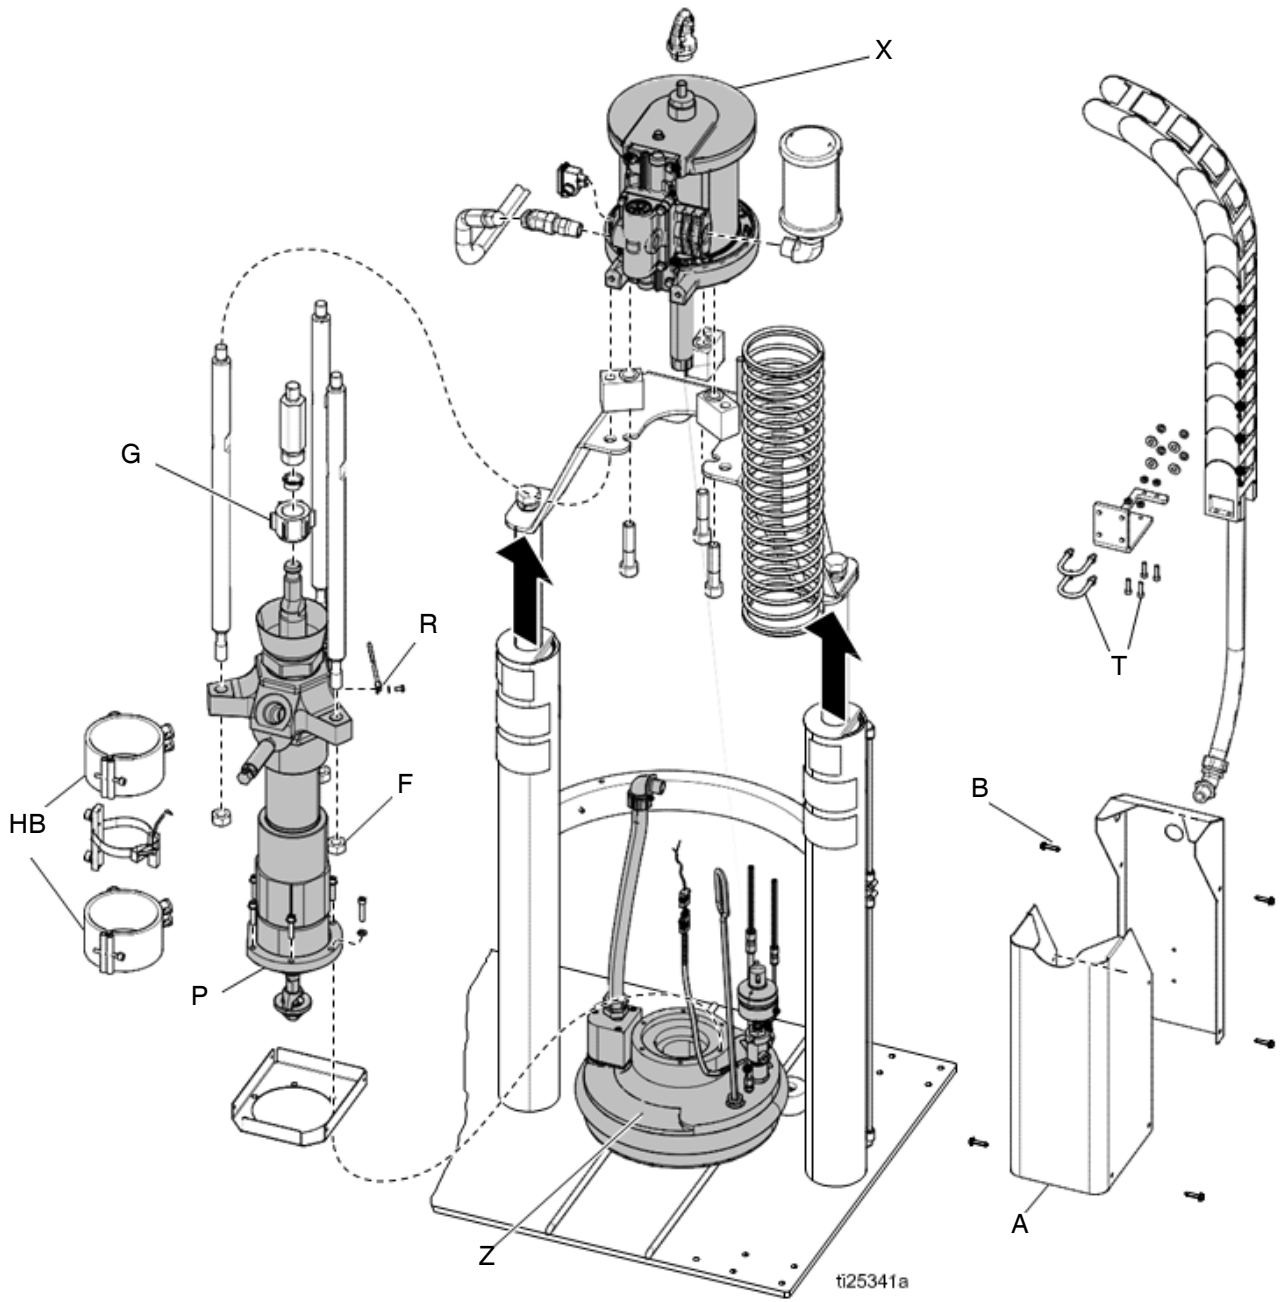

FIG. 28
2. Make sure the ram plate is down and the ram director valve (CC) is in the neutral position.
5. On the ADM, turn off the system heat (D).
8. If the system includes a pump shield, remove the pump sheet metal enclosure (A). See FIG. 28.
- a. Remove the cover screws (B).
- b. Remove the heater bands (HB) and disconnect the ground wire (R).
11. Disconnect the electrical cable from the air motor (X).
13. Remove nuts (F) from pump/air motor tie rods at the pump end.
14. Remove the nuts and bolts (T) holding the cable tract to the air motor support plate. Slide the end of the cable track outboard of the mounting plate.
16. Fully loosen the pump rod coupler (G) to the air motor rod.